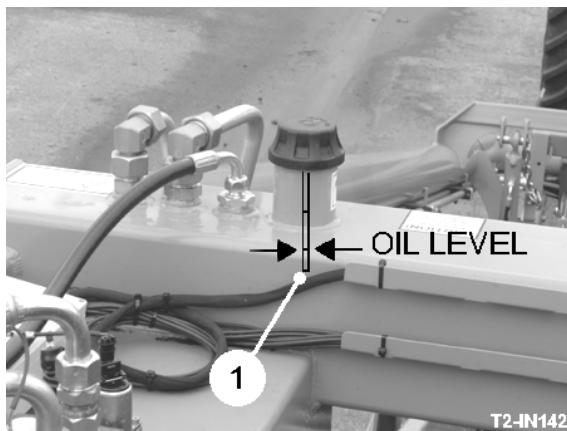

Fig 35
The hydraulic oil should be carefully monitored. The cold oil level should be kept to the lower mark on the dipstick (item 1, fig 35) with the dipstick screwed fully in. Maintain the level by topping up or refilling with HM46 Hydraulic Oil. The reservoir holds approximately 410 litres. Should a high water content becomes apparent or a cloudiness in the oil, the hydraulic oil should be changed.